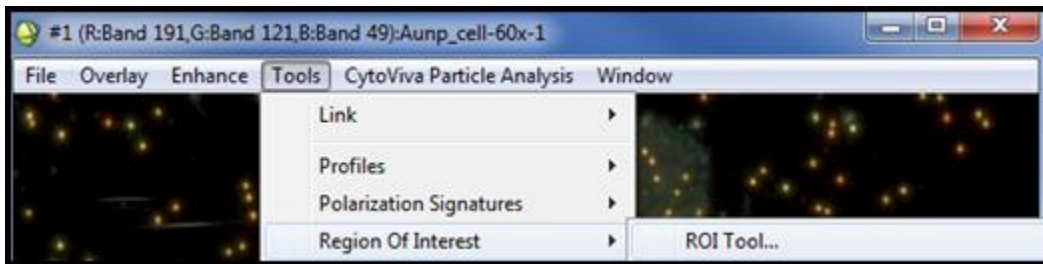

Figure 5.11a. Opening the ROI Tool
- In the Image Window menu bar select Tools (Figure 5.11a).